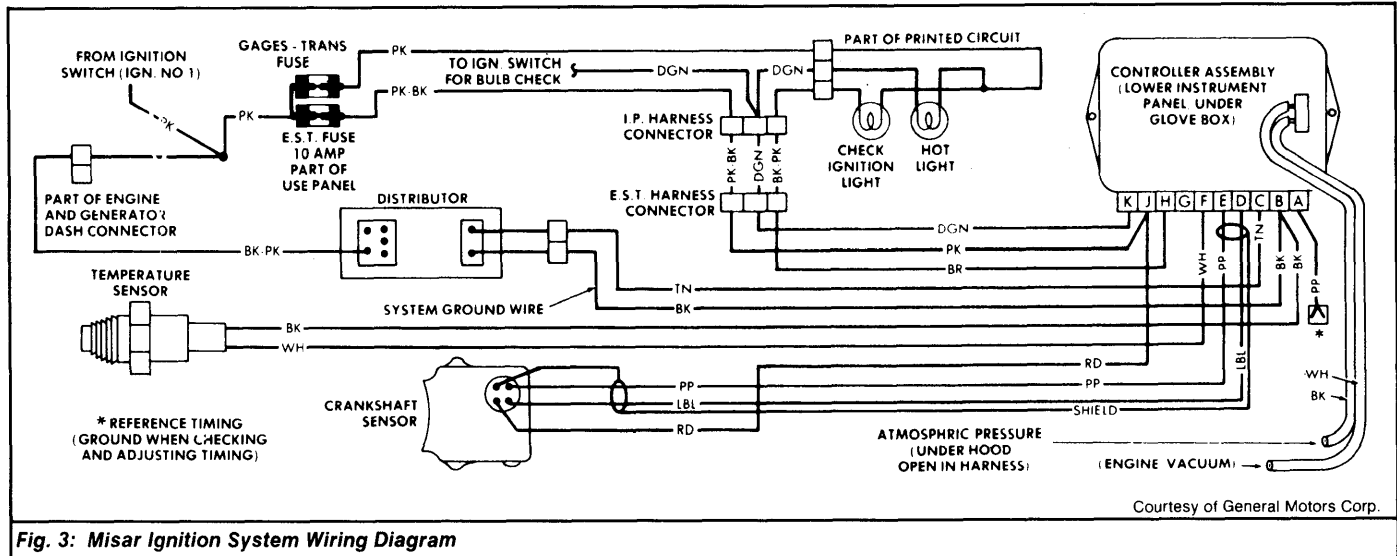

Fig. 3: Misar Ignition System Wiring Diagram
- 4) With distributor position correctly adjusted, connect a jumper wire between ground and reference timing connector. See Fig. 3. Connector is located below glove box, next to controller assembly.
3) Reconnect crankshaft position sensor harness connector. Connect a jumper wire between ground and controller assembly reference timing lead. See Fig. 3. The engine should start and continue to run. Run engine at idle and go to next step.
- 1) Ensure that reference timing connector is not connected or shorted to ground. See Fig. 3. With engine running and transmission in Park, check voltage at Red and Pink wires (terminal J) of controller assembly connector. If reading is 11 volts or more, go to next step. If not, go to step 3).